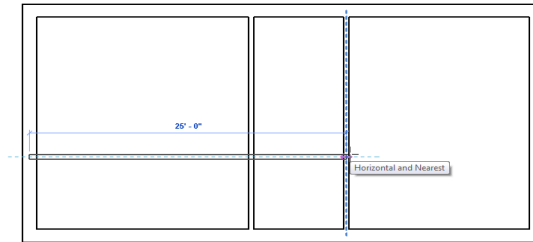

Figure 3-61 Sketching the third interior wall segment
- Press SHIFT and move the cursor horizontally toward the right until it reaches the first vertical interior wall. When the **Horizontal and Nearest** object snap symbol appears, click to specify the location of the endpoint of the third interior wall, as shown in Figure 3-61, the wall segment is created.